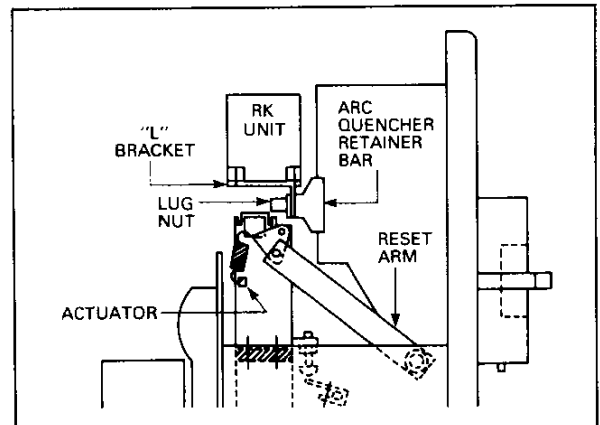

Fig. 7
1. Loosen the two lug nuts Fig. 7 (which are located in front of the arc quencher) enough to allow the mounting bracket to be placed behind the washers. Tighten the lug nuts to firmly hold the bracket.